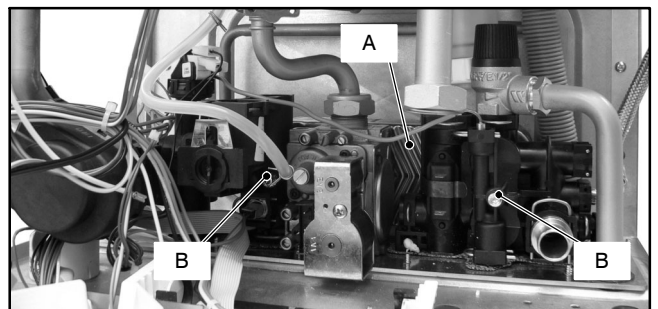

Fig. 6.3
The d.h.w. heat exchanger *A* in Fig. 6.1 and Fig. 6.3 allows the instantaneous transfer of heat from the primary hydraulic circuit to the water destined for d.h.w. use.
- 6 Completely unscrew the Allen key screws *B* (Fig. 6.3) which hold the exchanger to the plastic groups.